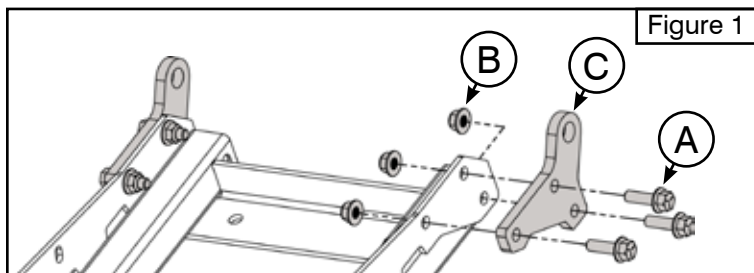

Figure 1
1. If installed, remove pin attachment brackets (C) and hardware (A and B) as shown in **Figure 1**. If not installed, proceed to **Step 2**.
1. Remove and discard the outermost wear bar carriage bolt (A) on the passenger side of the plow as shown in **Figure 1**.
2. Hold Side Shield (1) in place on passenger side of the blade and secure using 5/16 bolts (3.3) and 5/16 nuts (3.6) as shown in **Figure 1 & 2**. **Note:** Do not tighten at this time.